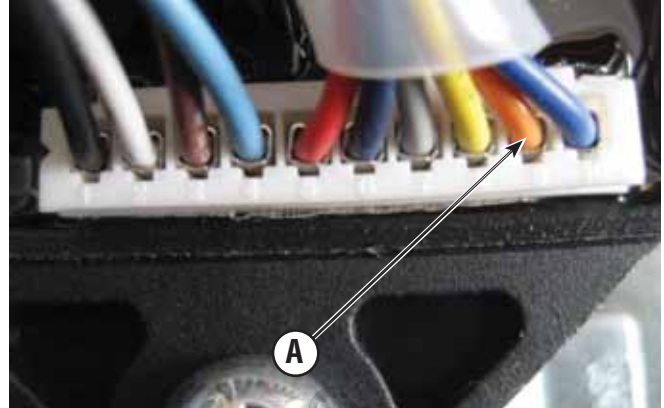

Figure 49
4. Test for continuity between ground and the low oil switch (A, Figure 49).